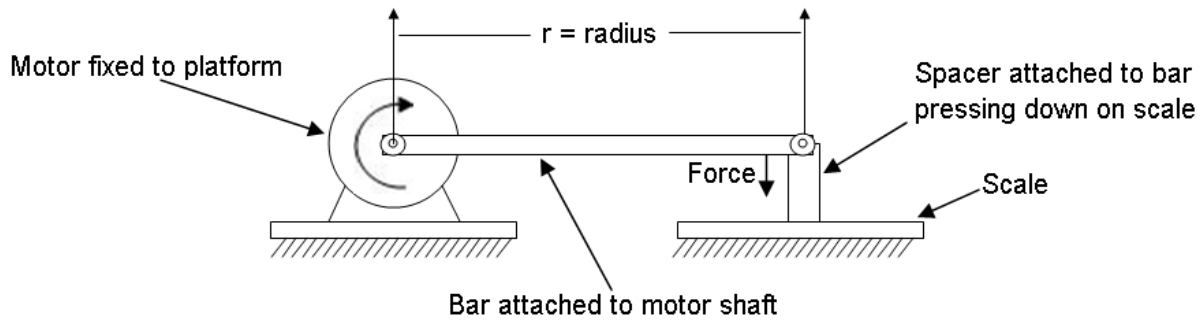

Figure 75
- 2) connect up the machine as in Figure 75